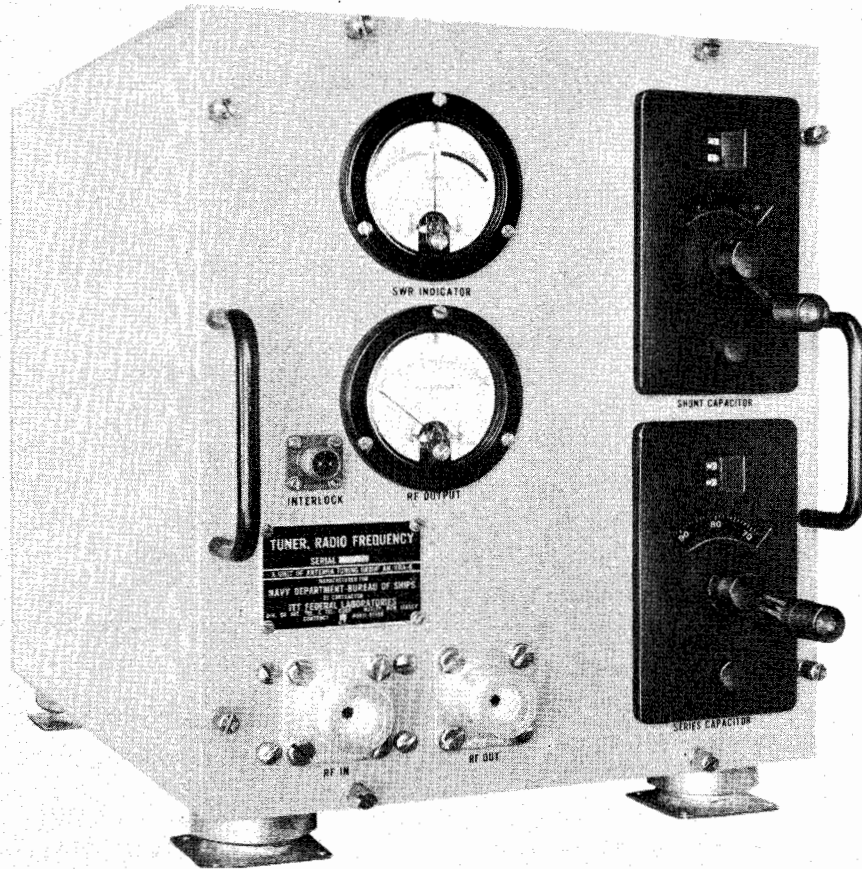
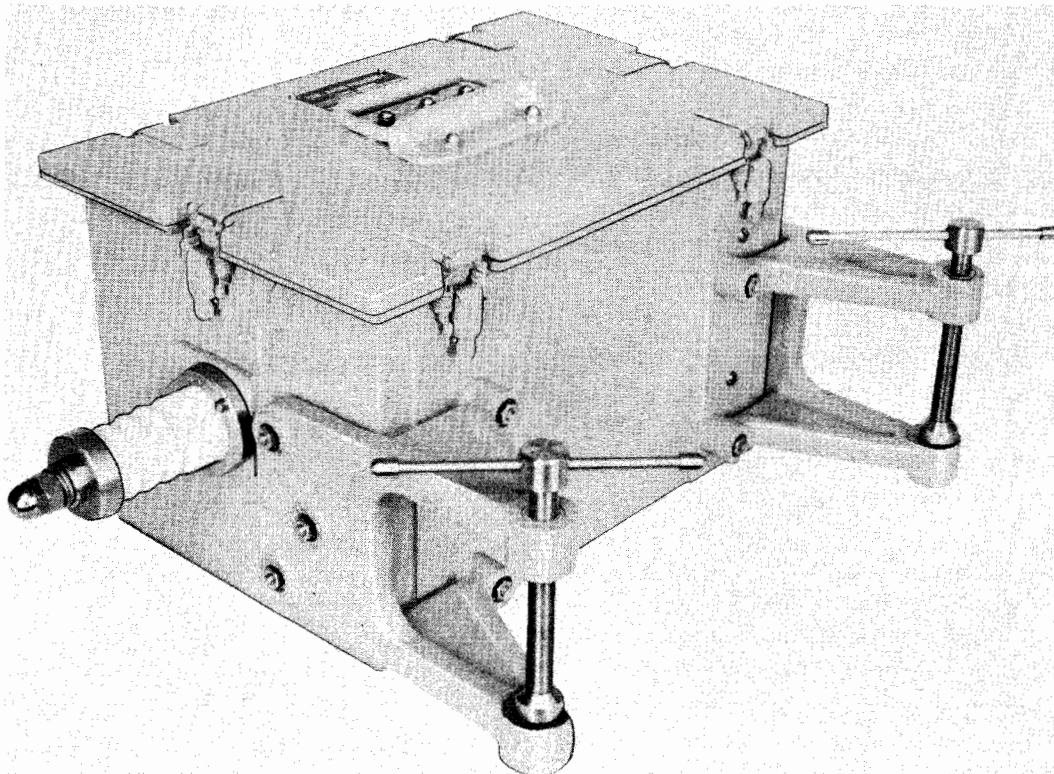

Figure 1-2. Radio Frequency Tuner TN-341/BRT
Figure 1-3. Radio Frequency Coil RF-91/BRT
Antenna Tuning Group AN/BRA-6, consisting of Radio Frequency Tuner TN-341/BRT (see figure 1-2) and Radio Frequency Coil RF-91/BRT (see figure 1-3), provides for emergency communication for submarines when normally used antenna equipment is inoperable. The equipment is a tuning network for matching the input impedance of Antenna AT-774A/UR to a 50-ohm transmitter feedline, within a standing wave ratio of 3:1. The antenna tuning group operates over a frequency range of 2 to 30 mc at an average power input of up to 750 watts. The rf tuner and rf coil provide the proper matching of antenna to transmitter by the removal or insertion of inductance and capacitance in the antenna circuit, thus increasing or decreasing the effective antenna impedance. The AN/BRA-6 is designed for surface operation only.
a. RADIO FREQUENCY TUNER TN-341/BRT MOUNTING. (See figures 1-2 and 2-1.) - The rf tuner is ready for installation as soon as it is removed from the shipping container. To mount the unit, proceed as follows: